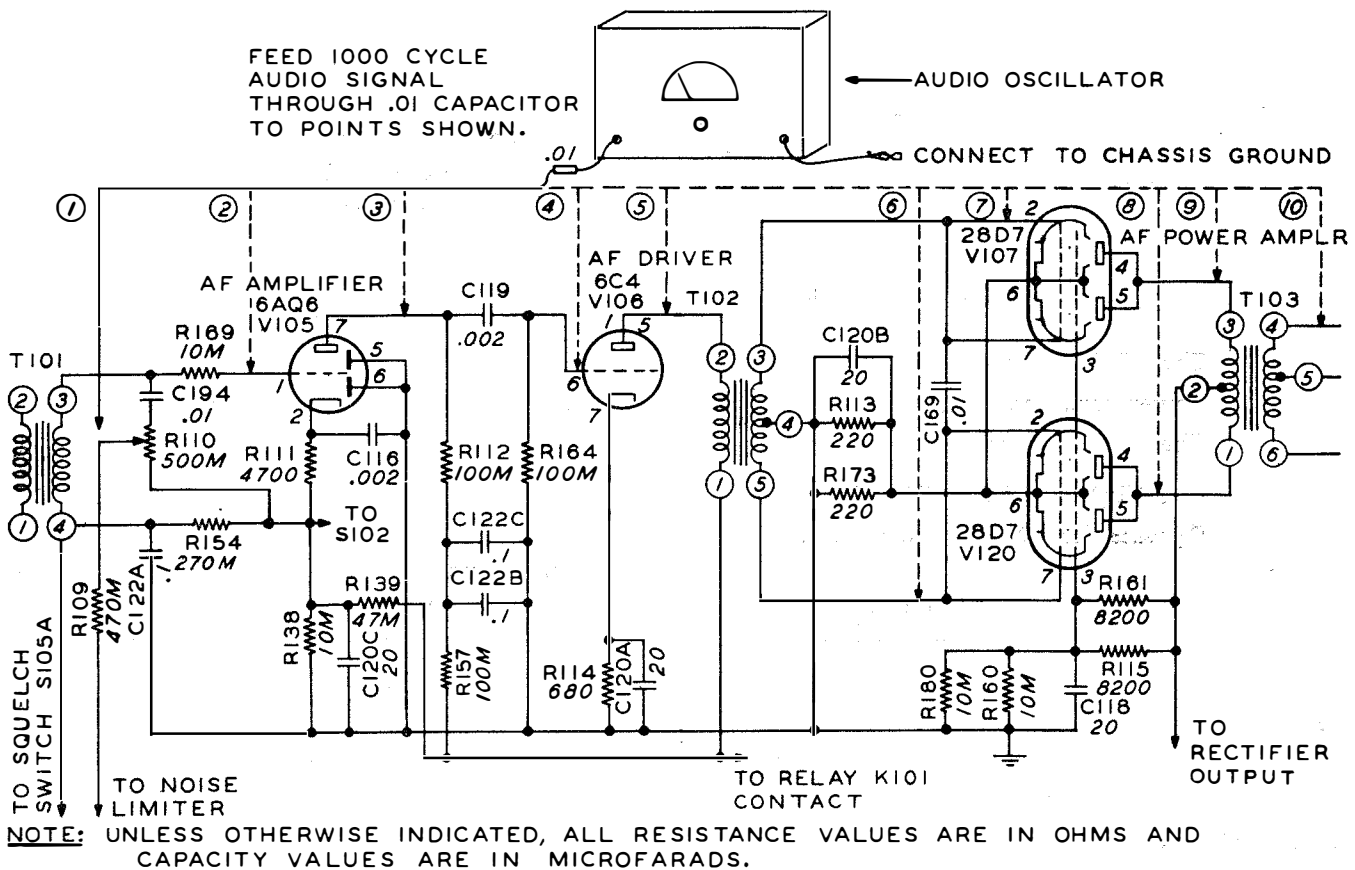

Figure 5-3—Trouble Locating in Audio Stages
- (f) When the trouble is in the audio stages, advance the audio oscillator lead point by point as shown in figure 5-3. When a point is reached where the signal is heard, it may be assumed that the trouble lies in the stage immediately preceding this point.